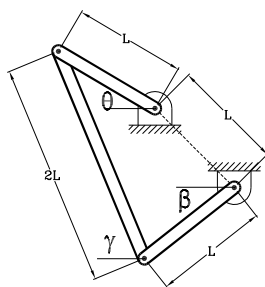

Figure 8.33:
3. Figure 8.33 shows a four bar mechanism. For each link, determine the angle between the link and a horizontal line as a function of the angle  $\theta$ . In other words assume  $\theta$  is a known function of time. Note that your equations will be very hard to solve so simply write them down and quit. Let  $\theta$  be the angle between the horizontal and the upper link of length  $L$ .